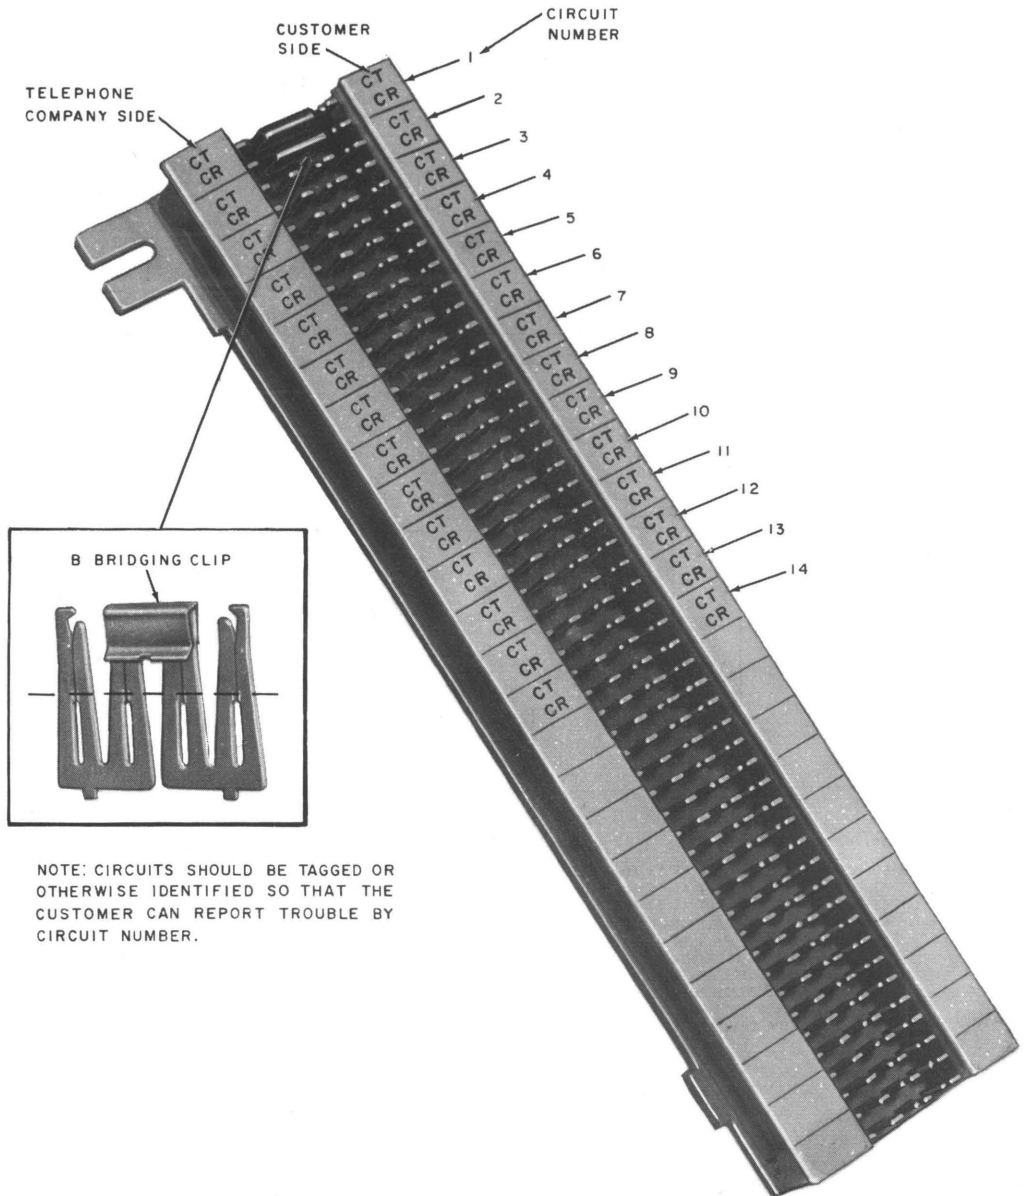

Fig. 5—66M1-50 Interface Connecting Block
- (b) Plug desired connector cables to P2, P3, and P4, and terminate raw ends on 66M1-50 interface block (Fig. 5). Only the CT and CR
- (a) Connect the connector end of an A25B connector cable to P1 and terminate the raw end on the 66M1-50 interface block (Fig. 5). Only leads CT and CR need be terminated (Table D). Insulate and store all spare leads.